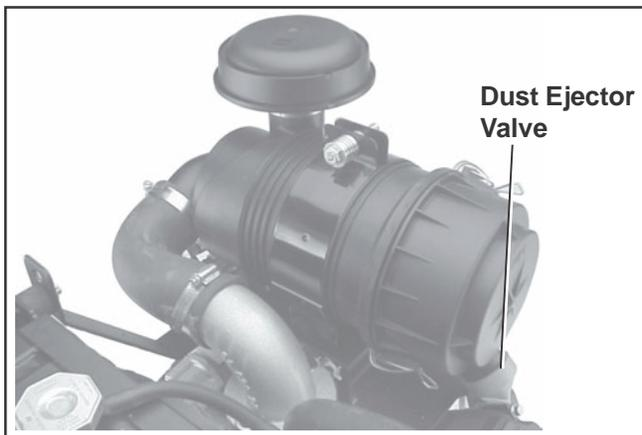

Figure 18. Air Cleaner Assembly.
- Reinstall the end cap so the dust ejector valve is down and secure with the two retaining clips. See Figure 18.